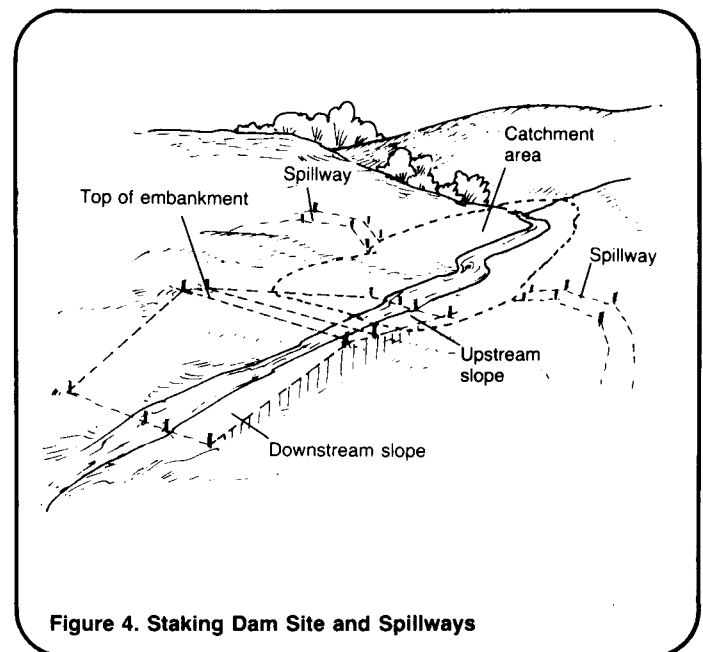

Figure 4. Staking Dam Site and Spillways
2. Mark out the dam site with stakes and rope as shown in Figure 4. Mark the proposed water lines using a hand level. The string across the valley should mark the high point of the dam. Be sure that the line is level before starting the other construction steps.